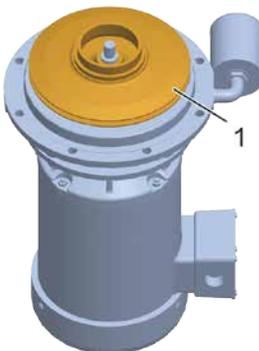

Fig. 106 Impeller pushed on (example: herborner.F-N)
11. Push the impeller (Fig. 106/1) onto the motor shaft.